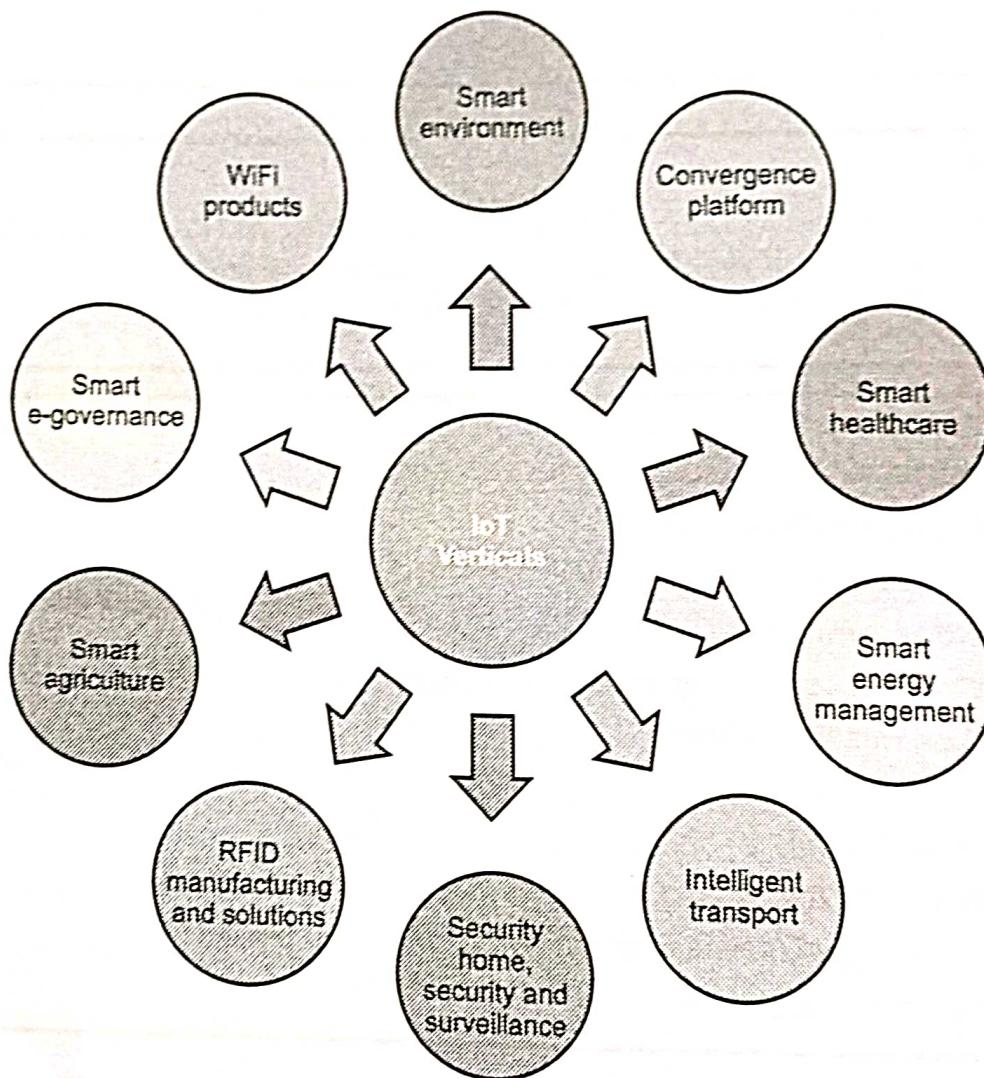

Fig. 7.1.1 IoT vertical applications
- Fig. 7.1.1 shows IoT vertical applications.